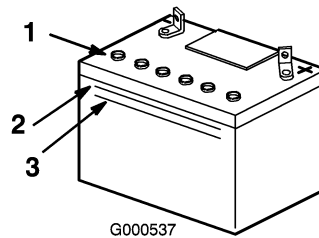

Figure 32
- Look at the side of the battery. The electrolyte must be up to the Upper line (Figure 32). Do not allow the electrolyte to fall below the Lower line (Figure 32).
- Remove the vent caps from the battery (Figure 32).
- Slowly pour distilled water into each battery cell until the electrolyte level is up to the Upper line (Figure 32) on the battery case.
- Wait five to ten minutes after filling the battery cells. Add distilled water, if necessary, until the electrolyte level is up to the Upper line (Figure 32) on the battery case.